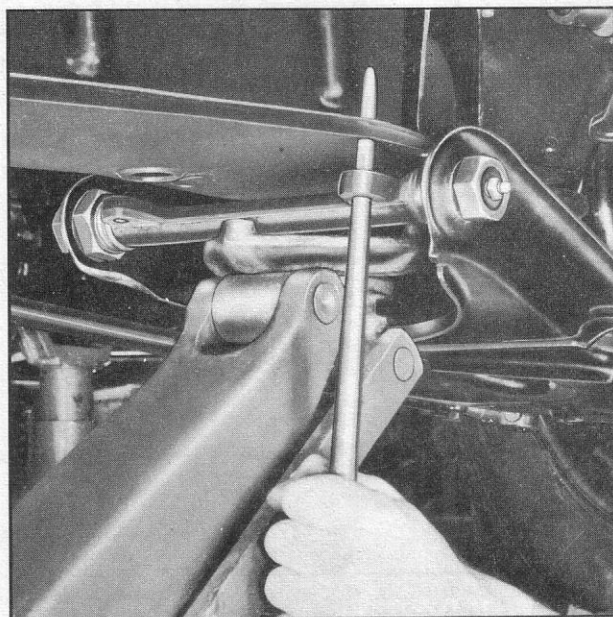

Fig. 14—Aligning Lower Control Arm Shaft Bracket
4. Slowly raise arm with jack to compress the spring. Use a long drift punch through the lower control arm shaft bracket hole and hole in frame cross member to maintain alignment (fig. 14).